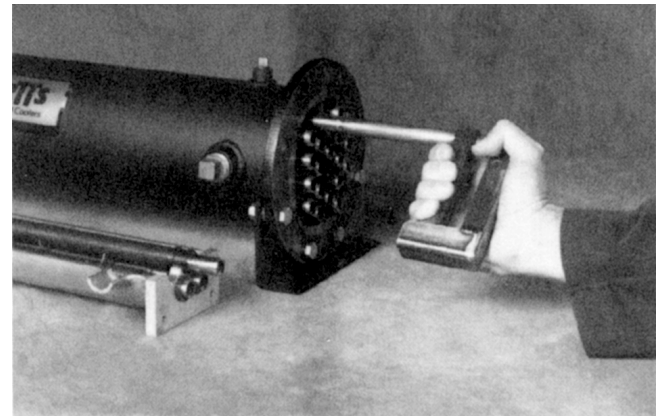

Figure 2: Long End
4. Insert the installation and removal tool, p/n 248622, into a tube on the long (L) side. Make sure the tool's shoulder contacts the tube. Grip the tube by squeezing the tool's handles together. Using a twisting motion, pull the tube until the short (S) end of the tube (opposite end) is pulled completely out of its seal (see Fig. 2). Repeat for each tube.